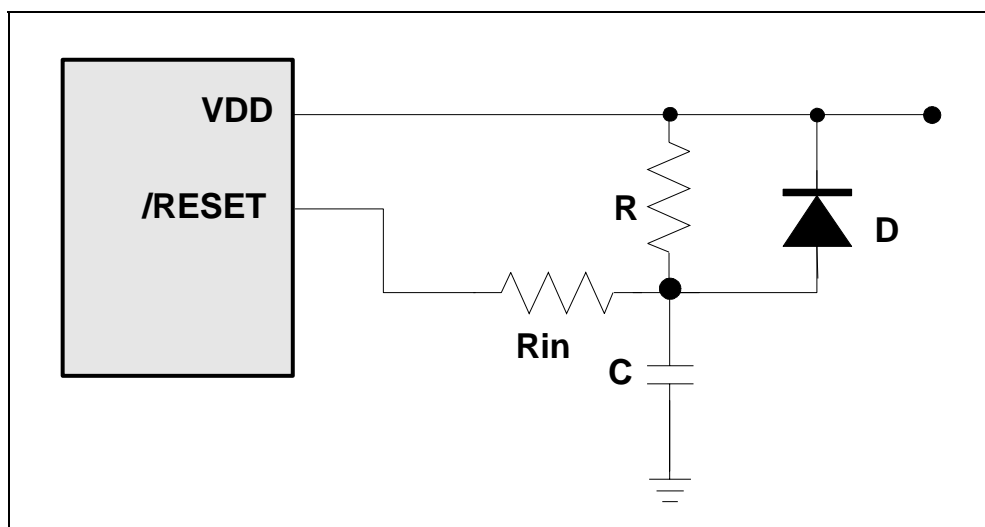

Figure 6-12 External Power-on Reset Circuit
The circuit shown in Figure 6-12 implements an external RC to produce a reset pulse. The pulse width (time constant) should be kept long enough to allow VDD to reach minimum operation voltage. This circuit is used when the power supply has a slow rise time. Because the current leakage from the /RESET pin is  $\pm 5 \mu\text{A}$ , it is recommended that R should not be greater than 40K. In this way, the voltage at Pin /RESET is held below 0.2V. The diode (D) acts as a short circuit at power-down. The capacitor, C, is discharged rapidly and fully. The current-limited resistor Rin, prevents high current discharge or ESD (electrostatic discharge) from flowing into Pin /RESET.